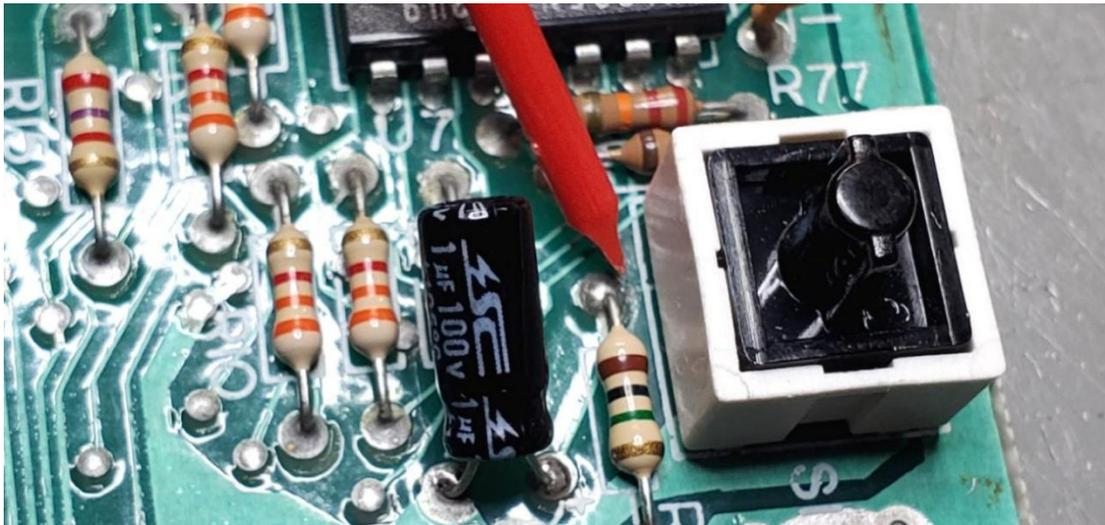

Figure 1: Reset line cut
Step 1: Using an X-Acto knife, very carefully cut the following two PCB traces. See **Figure 1** for reset line cut and **Figures 2a and 2b** for audio line cut.